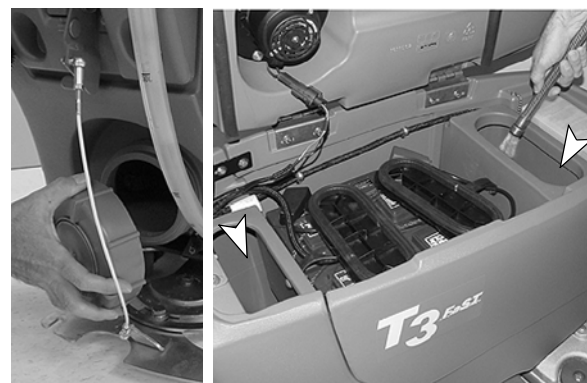

FIG. 32
2. To rinse out the solution tank, remove the clean-out cap at the rear of the machine and spray water (60°C maximum) directly into the two fill-ports located under the recovery tank (Figure 32).